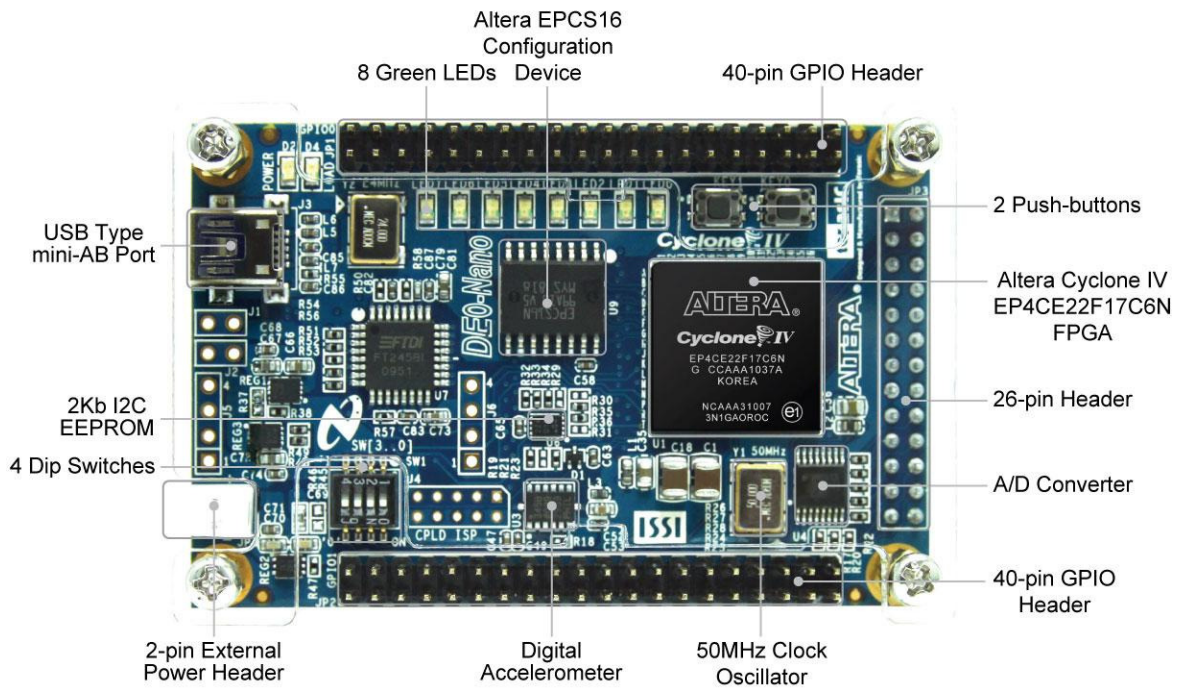

Figure 3: DE0-NANO Development Board
2.4. In order to be able to connect to the board you will need to assign pins to the proper expansion header on your board. The easiest to use is the GPIO-0 at the top of the board (Figure 3).